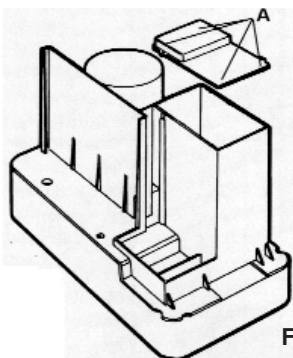
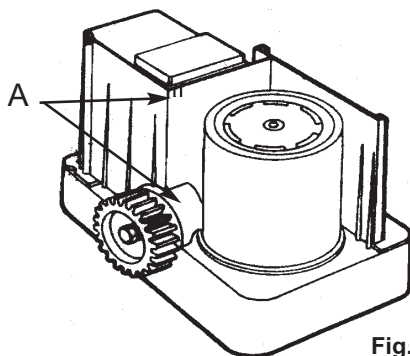
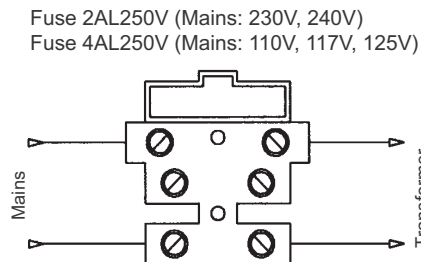

Fig. 7A
Fig. 7B
Fig. 7C
- 1 - The control central unit is powered by a security transformer. To connect the supply voltage to the automatic gate system unscrew the 4 screws and remove the cover (Fig. 7A), enter the 230V c.a. mains cable as per point A Fig. 7B and connect it to terminal block as per Fig. 7C.